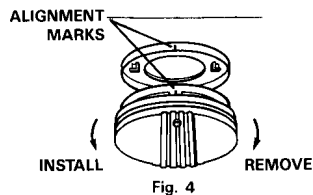

Fig. 4
- 5.8 Alignment marks are provided on the edge of the mounting plate and the alarm. After installing the mounting plate, place the alarm on the mounting plate with the alignment marks line up. Twist the alarm in the direction indicated by the "ON" arrow on the alarm cover (see Figure 4) until lock in place.